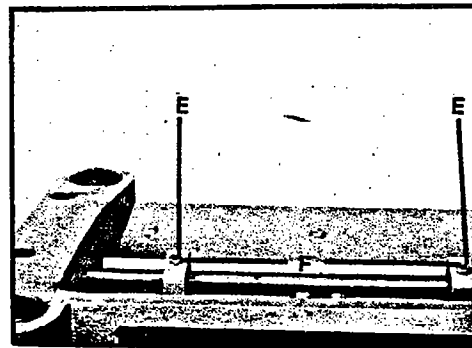

Fig. 30
5. If an adjustment to the chipbreaker is necessary, loosen nuts (F) Fig. 30, and turn screws (E) until bottom of chipbreaker just touches gage block. Then tighten nuts (F).